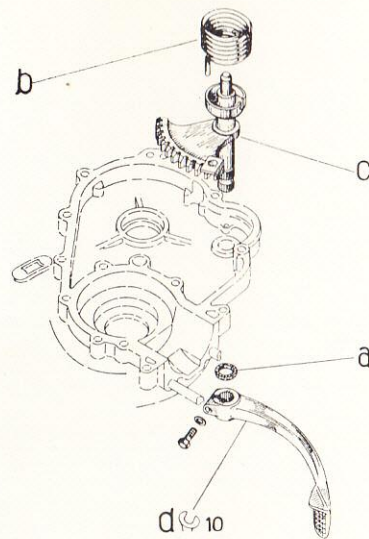

Fig. 120.
6. Check assembly position of kickstarter (see N.B. at Fig. 120).